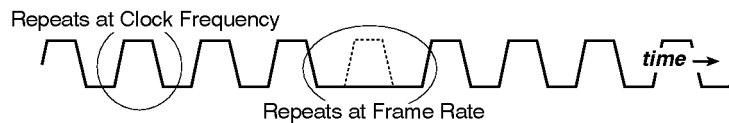

Figure 9: An encoded clock signal
- Encoded Mode.** Encoded mode is used by the SPG 1000 to control the TSG. In Encoded mode, both clock and frame information are contained in one signal present at the Clock input; the frame reset is indicated by a “missing pulse” in the clock signal. See Figure 9. The allowable range of clock frequencies in this mode is 68 to 78 MHz.